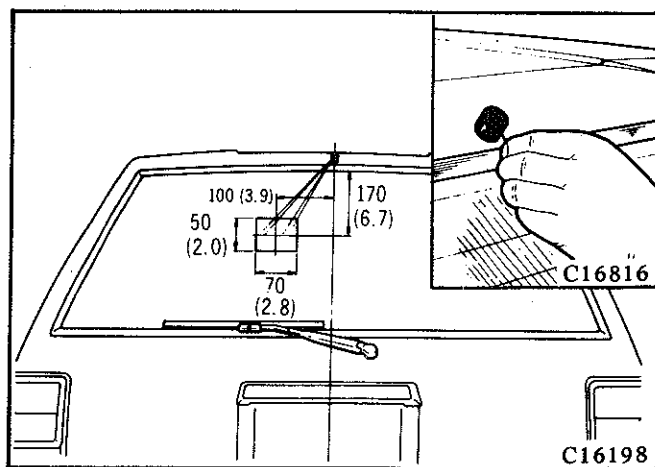

Fig. 6—Adjusting rear window washer jet
(1) Adjust the washer nozzle injection position as shown in Fig. 6 by inserting a metal wire in the outlet jet and rotating the ball.